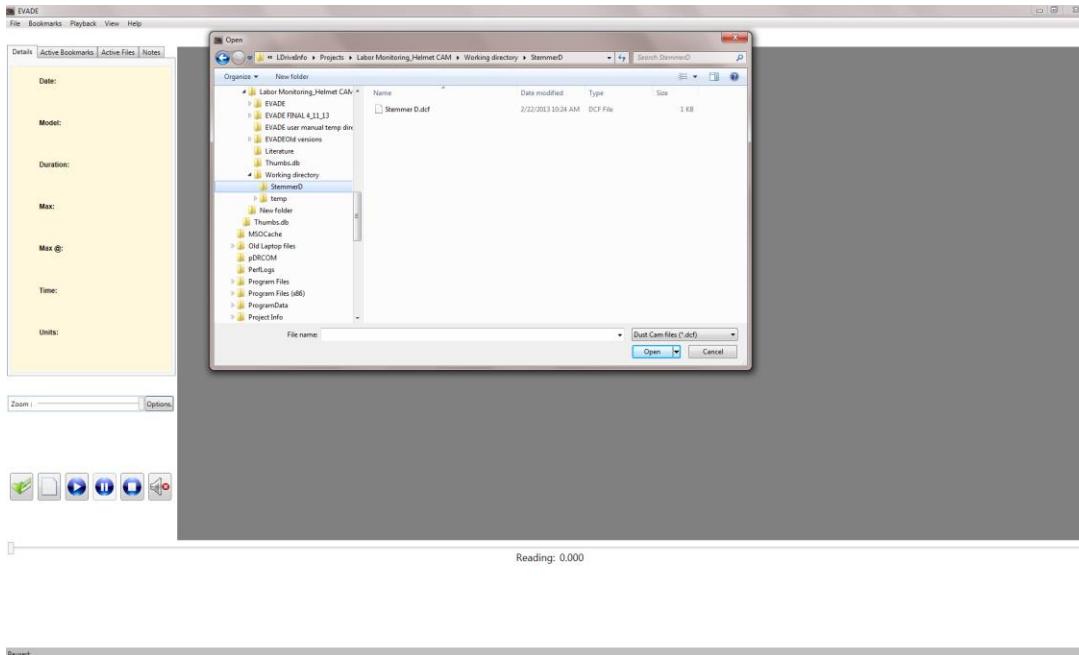

Figure 18. The Open command dialog box.
1. Click on the **Open** option from the File menu to open the Open dialog box (Figure 18). This dialog box lists the filenames of existing dust exposure analyses and allows you to select the existing analysis file you want to open. The analysis file has the naming format of *<filename>.dcf*. This file is created during the configuration of an initial analysis under the New Project command. Therefore, these files will not be available during the initial setup. There is only one file created for a configured dust exposure analysis. You can create additional analyses for the same occupation by renaming the *dcf* file.